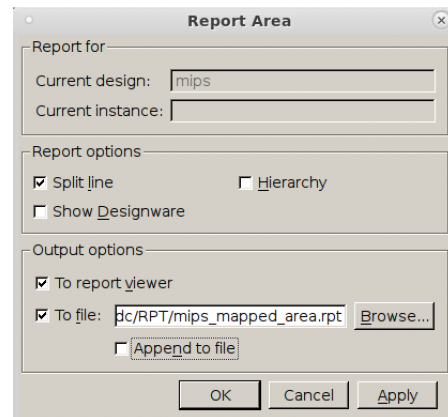

Figure 12: Reporting the design area
2. Select the parameters as in Fig. 12.